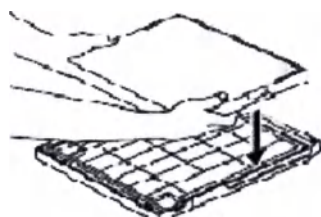

Figure 21 – Placing the film cassette in the printer cassette compartment
- Remove the film cassette from the cardboard packaging, remove the protective packaging and place it in the printer cassette compartment (Figure 21).